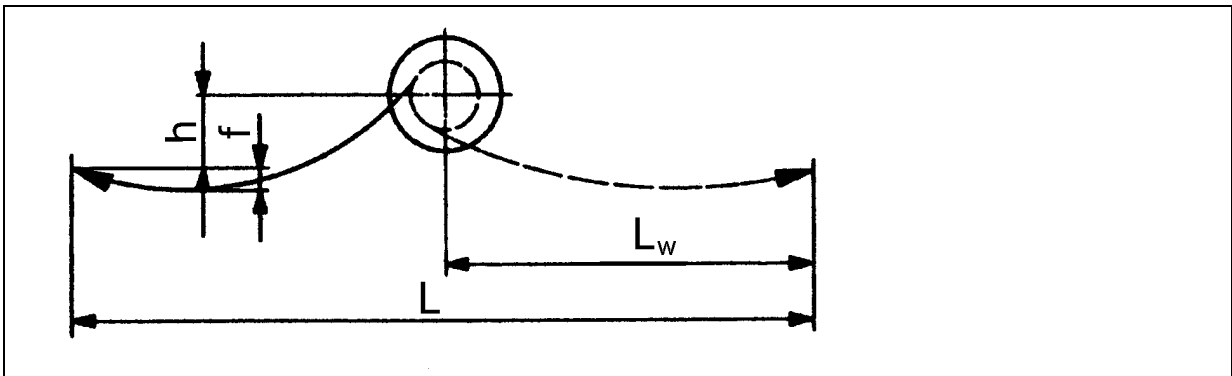

Fig. 4: Cable pay-off freely tensioned
3.3 Cable pay-off: horizontally freely tensioned (cf. fig. 4)